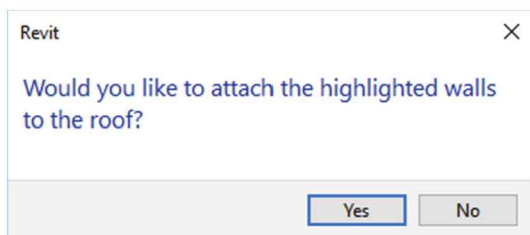

FIGURE 6-2.6 Roof Plan; attachment warning
15. Click **No** to attach walls (Figure 6-2.6).